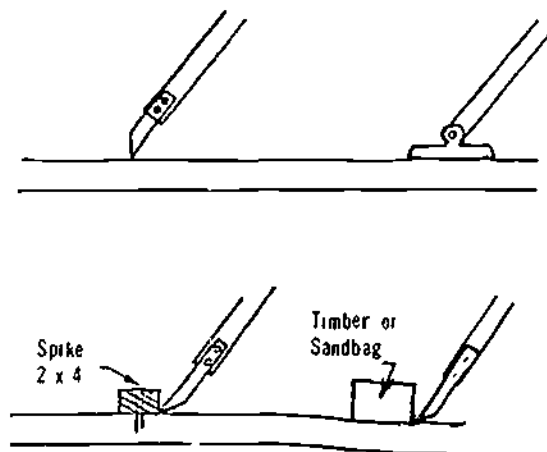

Figure 1-2. Types of Safety Feet for Ladders
- 2 The ladder must have safety feet (both holding) either braced against a weight or cleat on the floor or lashed to a fixed object (Figure 1-2)